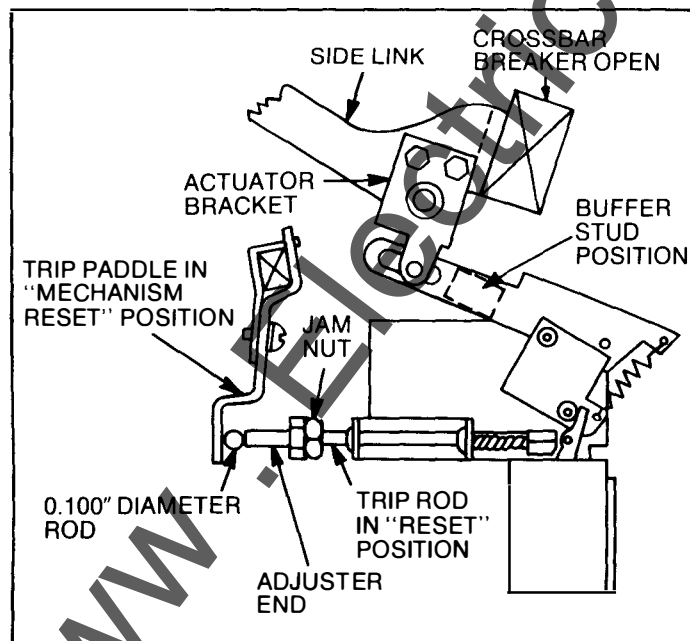

Fig. 2-6. Flux shifter adjustments
For all other breakers, the flux shifter trip paddle must be assembled to the trip shaft as shown in Fig. 2-6.
1. With the mechanism in the RESET position, set the gap between the trip paddle and the end of the flux shifter trip rod at 0.100 inches. Use a 0.100-inch diameter rod as shown in Fig. 2-6. Set the adjuster end of the trip rod and lock it in place with the jam nut.